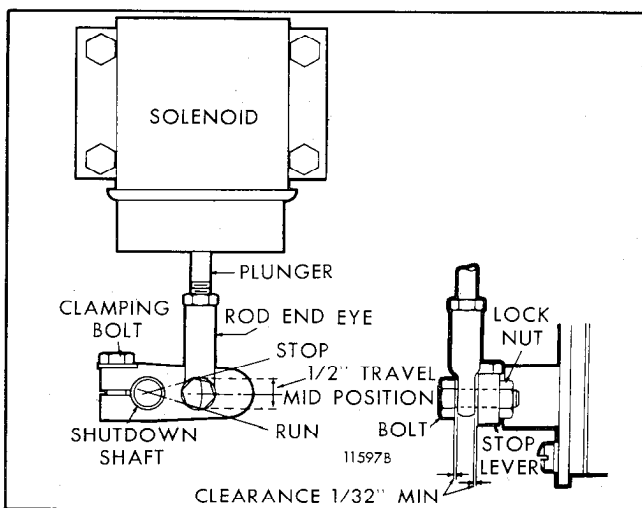

Fig. 5 - Typical Variable Speed Governor Lever Position
1. Remove the bolt connecting the rod end eye (variable speed governor) or the right angle clip (limiting speed governor) to the stop lever (Figs. 5 and 6). Align and clamp the lever to the shutdown shaft in such a way that, at its mid-travel position, it is perpendicular to the solenoid plunger. This assures that the linkage will travel as straight as possible. The solenoid plunger has available 1/2" travel which is more than adequate to move the injector control racks from the full-fuel to the complete no-fuel position and shutdown will occur prior to attaining complete travel.